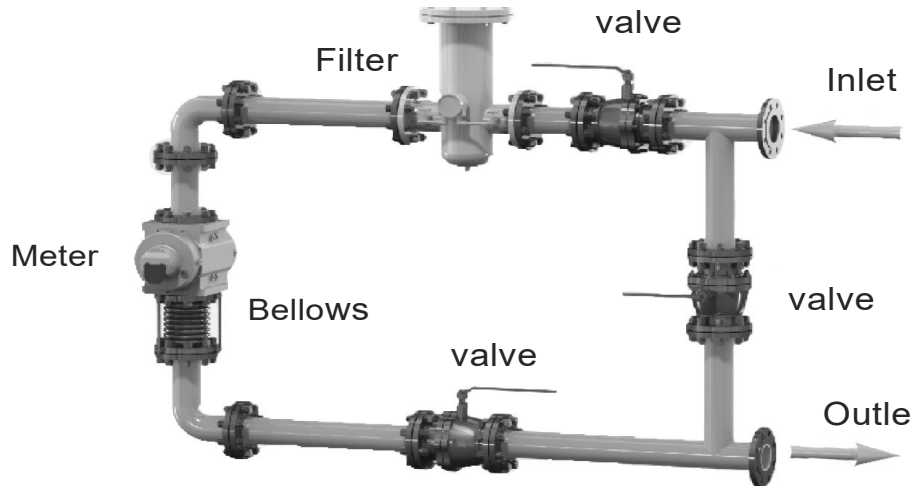

Figure 5 Vertical installation
6.1.1 Vertical installation (see Figure 5): When installed vertically, the gas inlet must be at the top, and the airflow flows from top to bottom, that is, top in and bottom out. The company recommends that users use vertical installation as much as possible. Vertical installation is helpful to the impeller's self-cleaning ability against debris.